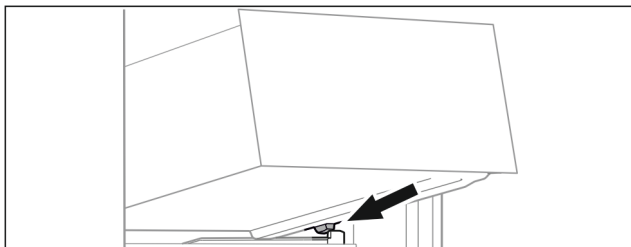

Fig. 103
- Place drawer at an angle behind the stoppers on the moulded rib. (see Fig. 103)